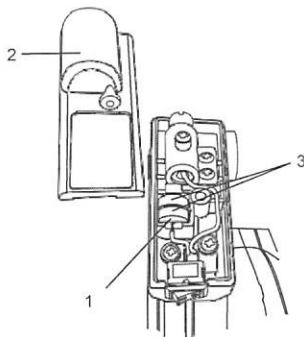

Fig. 13
3. Lift the laser cover (2) off the top of the laser assembly Fig. 13).
4. Remove the two old batteries (3).